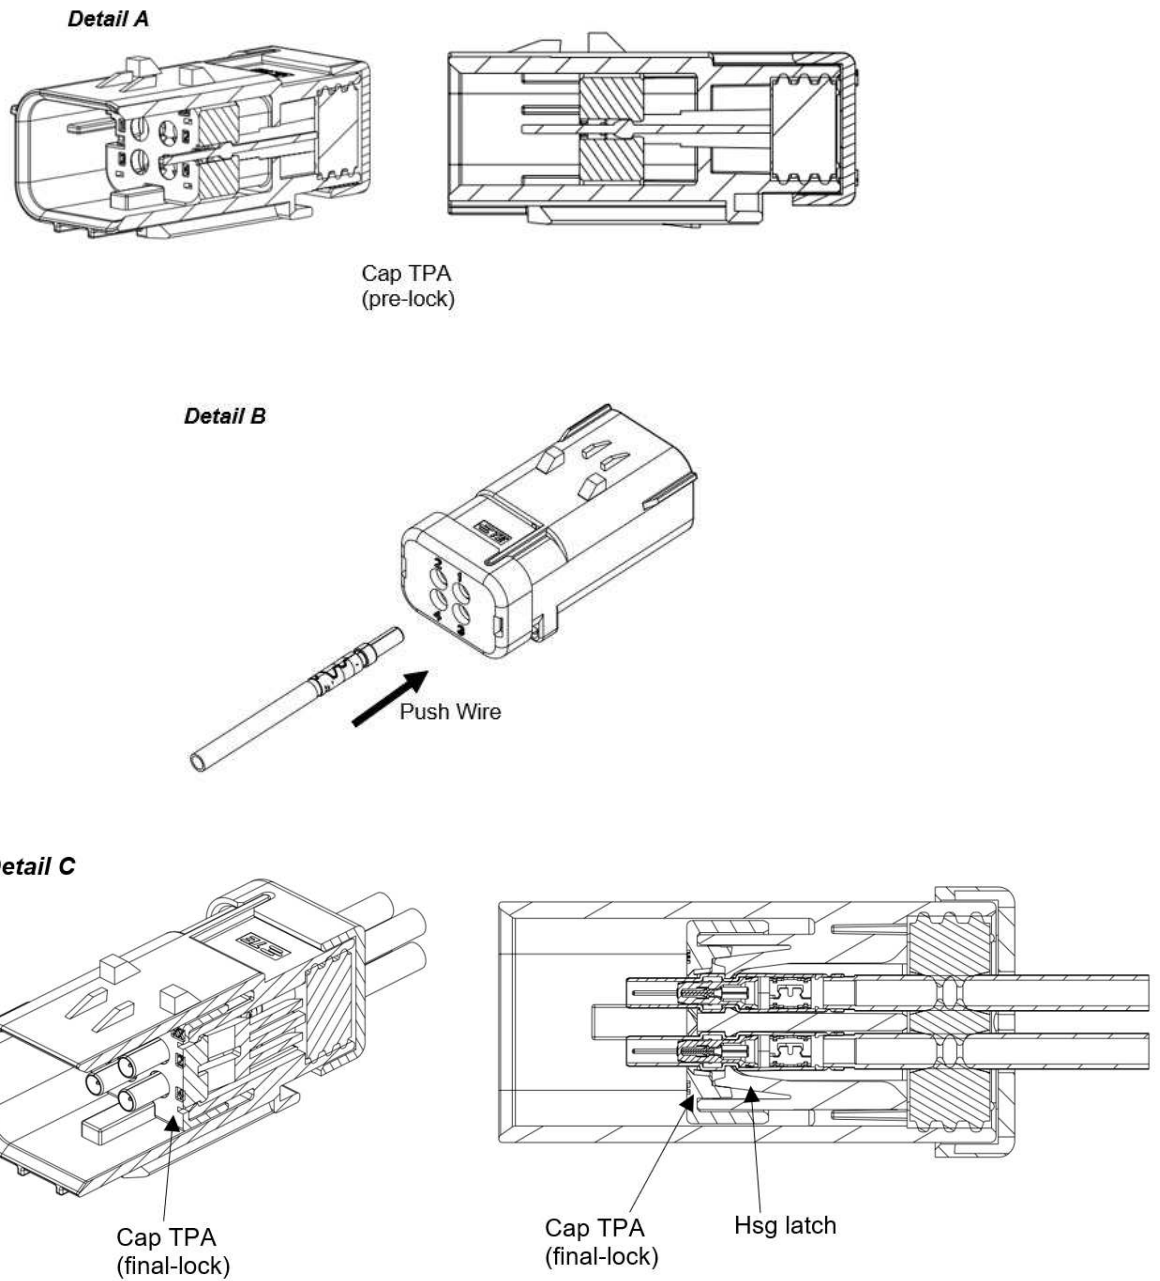

Figure 8
- ii. Make sure that the TPA is in Pre-lock condition as shown in Figure 8, Detail A.
- iv. After the terminals are assembled, push the TPA on the 2/4 side of the TPA with a small screwdriver or TE extraction tool into final lock position until hear the “click” sound as shown in Figure 8 Detail C.